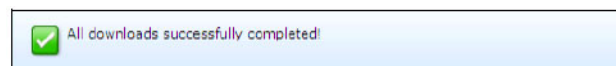

Figure 6-19 Download process completion message
- The next message appears showing that the download has completed, as shown in Figure 6-19. Click **Next**.